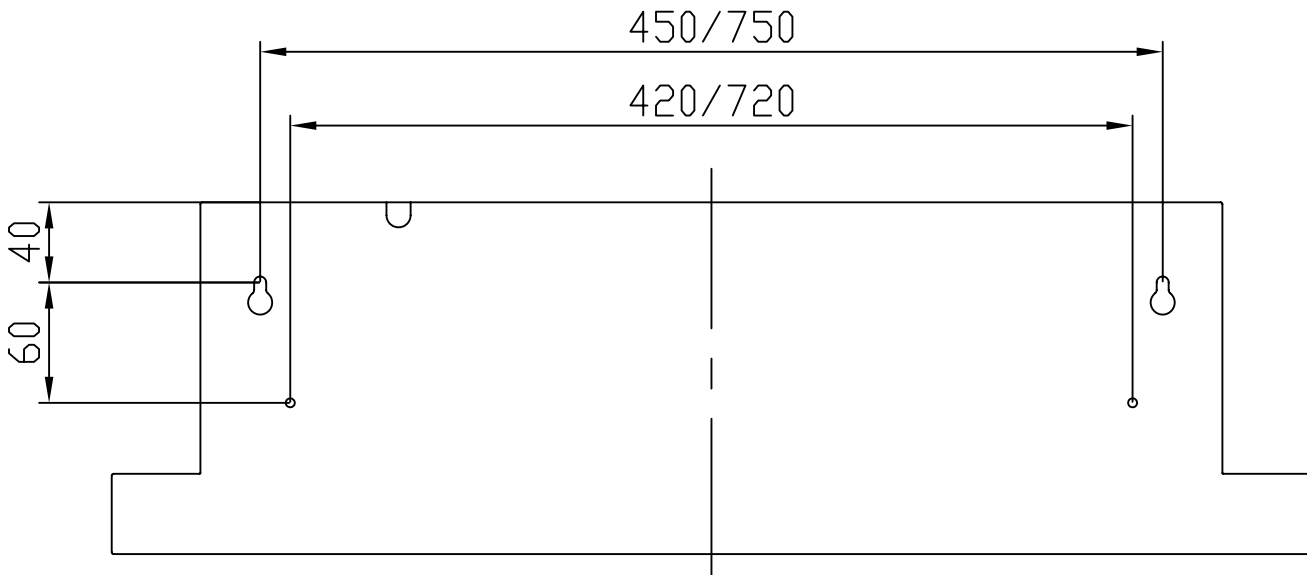

Figure 12
- Drill 4 holes of $\varnothing 8\text{mm}$ on the wall, as illustrated below (Figure 12).